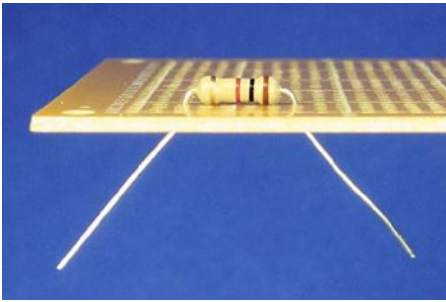

Figure 23-9. Side view of a breadboard with a component's leads bent slightly to hold it in place during soldering
1. Carefully bend the component leads toward the back of the board so that the components won't fall out during soldering (see Figure 23-9). Bend the leads only as much as necessary to keep the components in place during soldering; don't bend the leads completely flat against the board. Solder tends to wick under the flattened leads and contact other pads or components. Also, it's more difficult to trim off excess length of flattened leads.